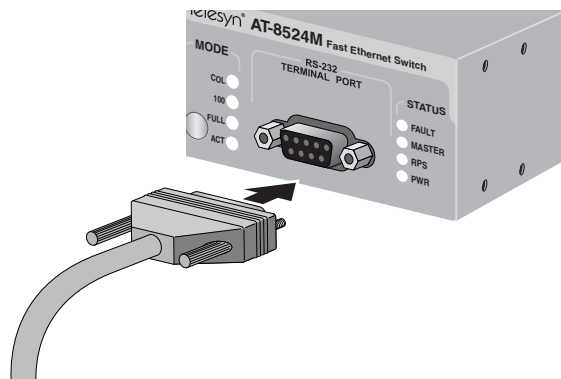

Figure 28. Connecting an RS-232 Cable to the RS-232 Terminal Port on an AT-8524M Switch
1. Connect one end of the RS-232, straight-through management cable included with the AT-8500 Series switch to the RS-232 terminal port on the switch. (See Figure 28.) This port is located on the front panel on the AT-8516F/SC, AT-8524M, and AT-8524POE switches and on the back panel of the AT-8550GB and AT-8550SP switches.